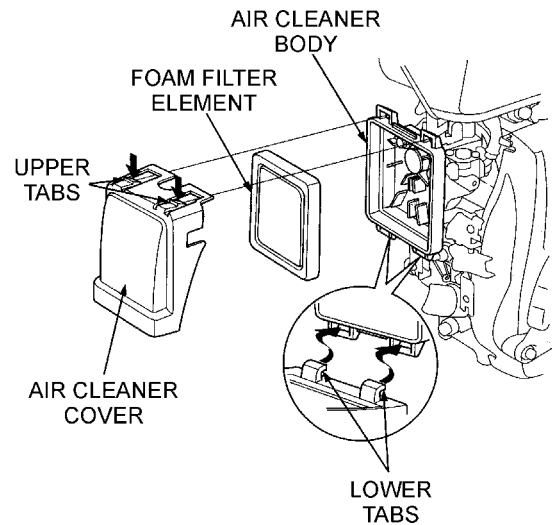

Figure 22. Engine Air Cleaner
1. Press the latch tabs on top of the air cleaner cover and remove the cover and foam filter element (Figure 22).